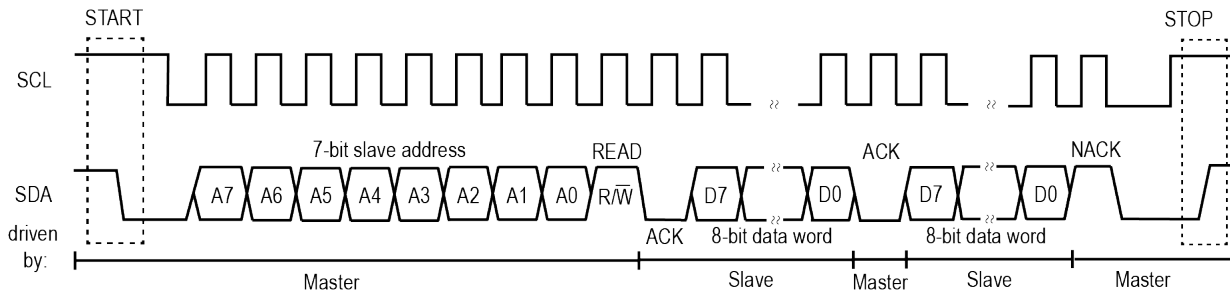

Figure 2-13 I²C Master Reading Two Bytes (7-bit Address)
7. If the command was a **READ**, as shown in **Figure 2-13**, the master releases the SDA line and allows the slave to transmit an 8-bit data word. The master issues an ACK after each byte until it has received the expected number of bytes. It issues NACK after the last byte.